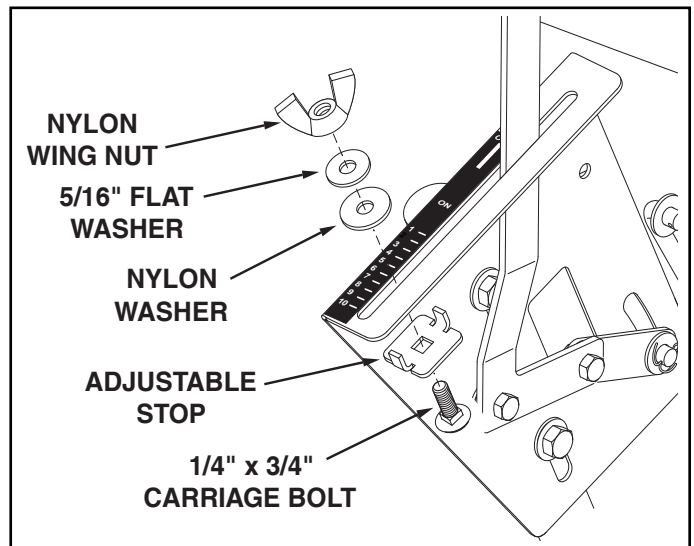

FIGURE 12
- Place the adjustable stop into the "ON" end of the slot in the top of the flow control mounting bracket. Secure with the 1/4" x 3/4" carriage bolt, a nylon washer, a 5/16" flat washer and the nylon wing nut. See figure 12.